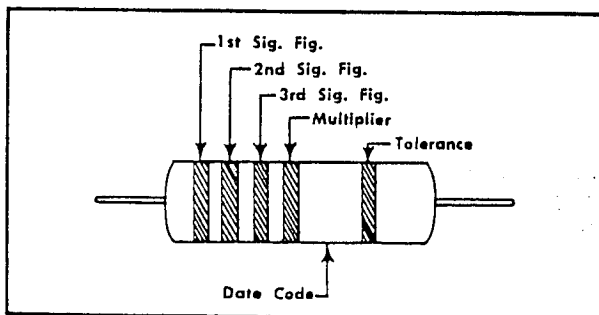

Fig. 4-3. Color-coding of metal-film resistors.
**Resistor Color-Code.** A number of precision metal-film resistors are used in this instrument. These resistors can be identified by their gray body color. If a metal-film resistor has a value indicated by three significant figures and a multiplier, it will be color-coded according to the EIA standard resistor color-code. If it has a value indicated by four significant figures and a multiplier, the value will be printed on the body of the resistor. For example, a 333 k resistor will be color-coded, but a 333.5 k resistor will have its value printed on the resistor body. The color-code sequence is shown in Fig. 4-3.